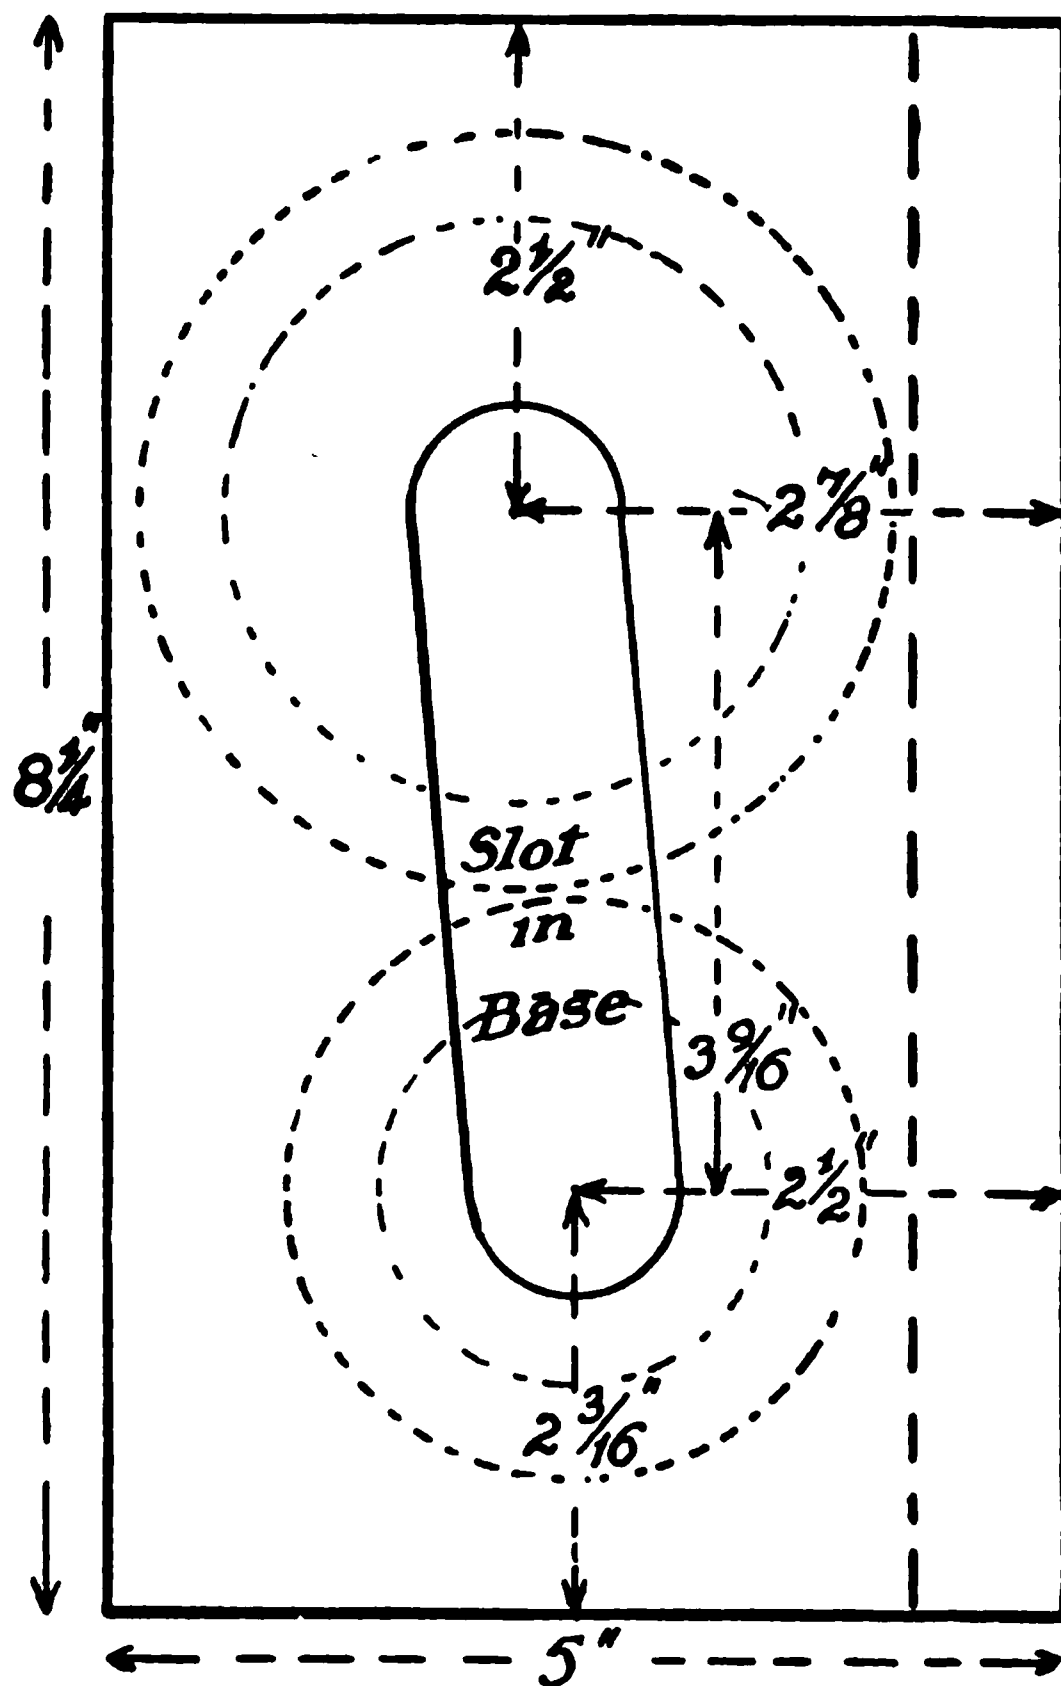

Fig. 55.—Plan of base of force pump.
The flanges of the pump and air chamber are arranged on it, with their centres situated as shown in Fig. 55, wherein the heavily dotted longitudinal line corresponds to the nearer side of the wooden back. Scribe round the flanges and clamp each in turn in position on the bedplate, while a hole is drilled through flange and plate with a drill of the proper tapping size for a  $\frac{3}{16}$ -in. screw. Then separate the parts (after making matching marks), and ream out the hole in the flange to pass the screw. The flange is then screwed on while the other five holes are drilled, those in the plate being subsequently tapped, and those in the flange
*The Stand.*—The *base* has a slot cut in it, as indicated in Fig. 55, to allow the pump to be removed. The *back*, *C*, has a ledge, *B*, screwed to